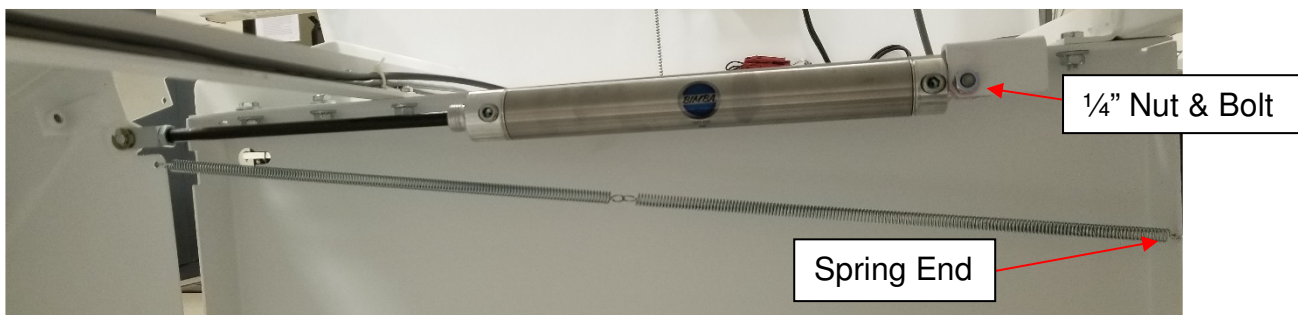

Figure 29: Front Cover Spring and Air Cylinder
2. Remove one of the ends of the retaining cable shown in Figure 29.